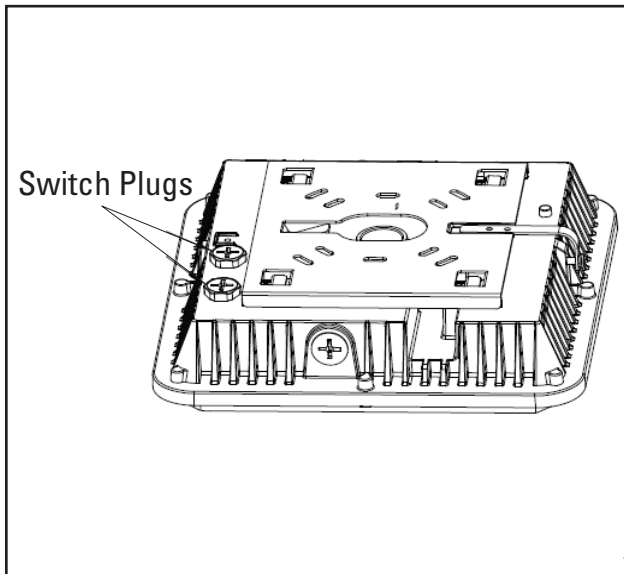

Figure 1.
1. Using a Phillips head screwdriver, remove the plug to access the necessary switch (Figure 1).